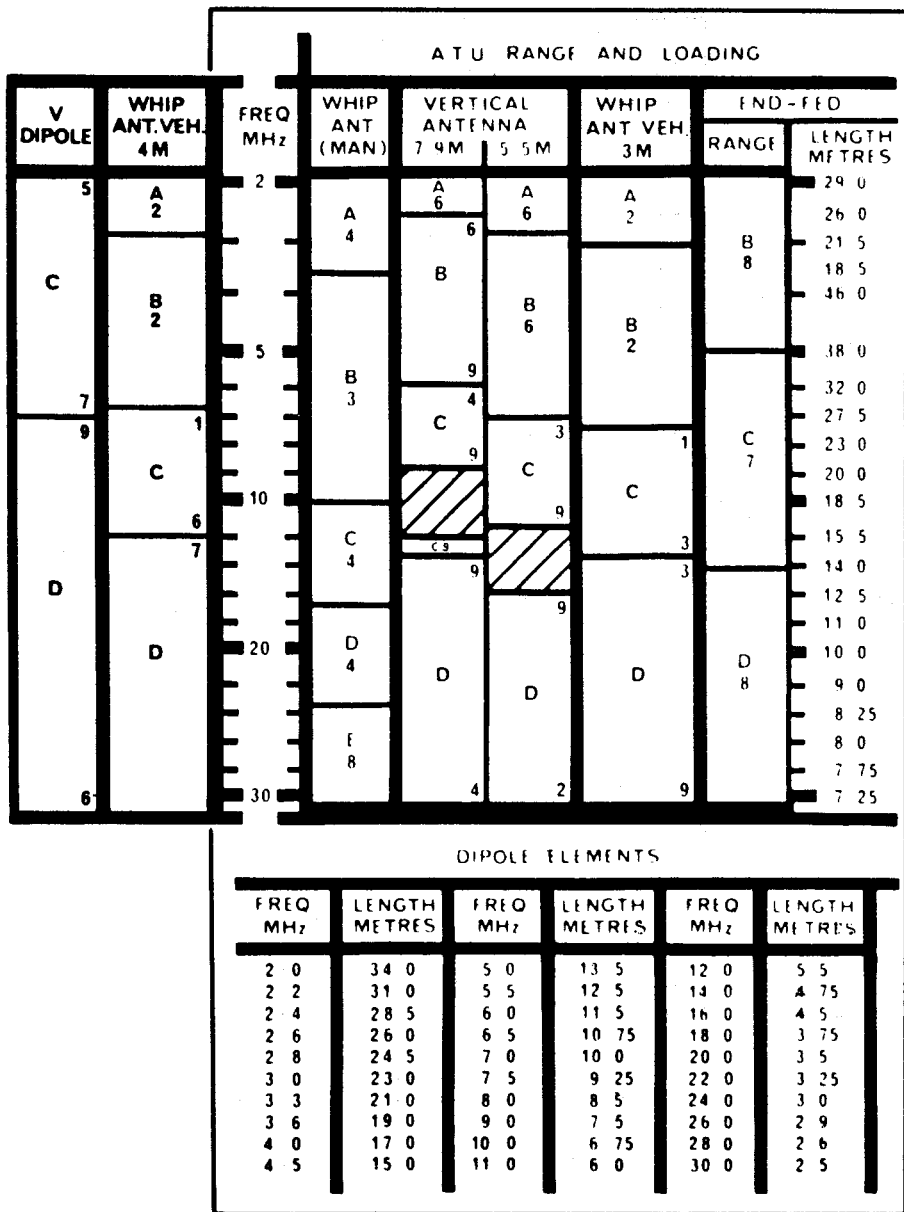
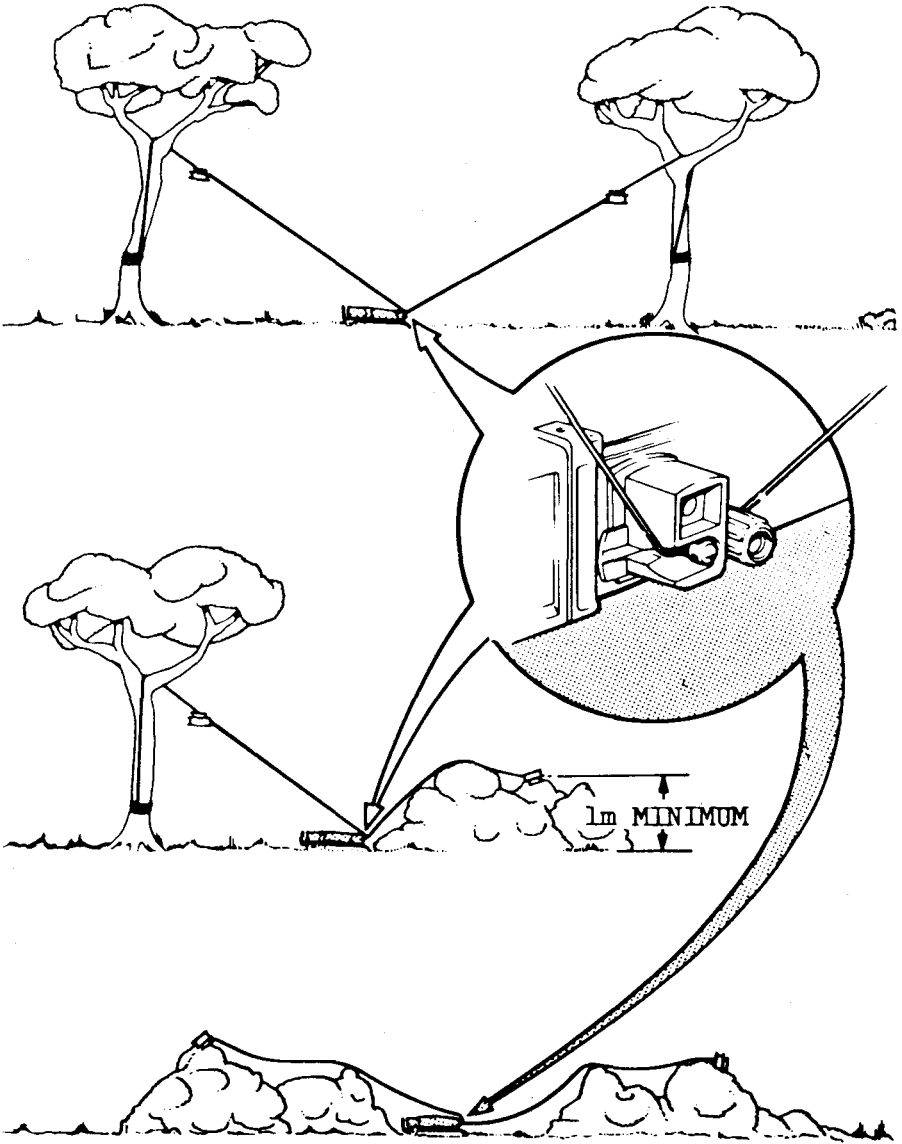
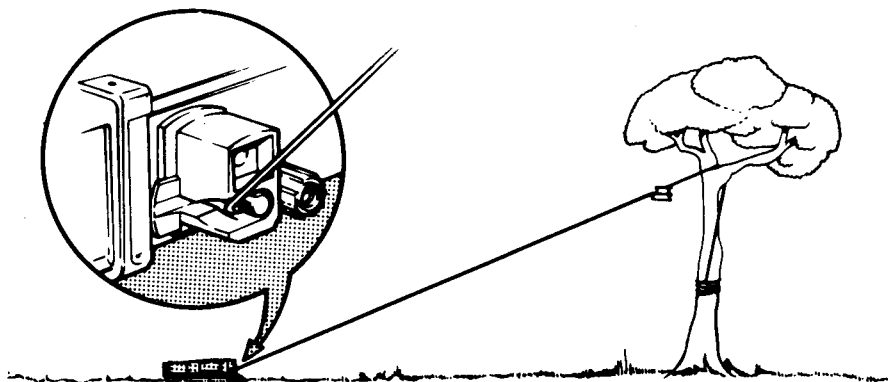

Fig.7 ATU Range and Loading and Dipole Elements Tables
Fig.12 Examples of other Dipole Configurations
Fig.13 Example of End-Fed Antenna
2.7 The settings of the RANGE AND LOAD SWITCHES on the RT320/1 antenna tuning unit (ATU) are determined by the operating frequency and the type of antenna (various configurations are described in para.2.12 to 2.17), as shown in the ATU RANGE AND LOADING TABLE (Fig.7, page 24) on the equipment case. Switch settings for V dipole and vehicle 4m whip antennas are not given in this table and form the subject of a separate table, also illustrated in Fig.7. The method of using the tables is as follows:-
2.16 Examples of other dipole configurations are given in Fig.12. In these examples the dipole centre junction and antenna feeder cable are not used, the coaxial link between the INT TUNER and T/R sockets remains fitted and the wire antenna ends are connected directly to the RT320/1 antenna and earth terminals as shown. The lengths of the dipole elements are specified in the table on the radio set (also shown in Fig.7, page 24). The equipment is set up as shown in Fig.6 (pages 22 and 23), using the RANGE and LOAD switch settings given for the V dipole in Fig.7 (page 24).
2.17 The end-fed antenna, an example of which is shown in Fig.13, uses one antenna wire connected to the RT320/1 antenna terminal and can be supported by a mast or a wall, instead of a tree. After setting the antenna length, as specified in the END-FED column of the ATU RANGE AND LOADING table (Fig.7, page 24), the equipment is set up as shown in Fig.6 (pages 22 and 23) using the RANGE and LOAD switch settings given in the table. The antenna counterpoise must be used with this antenna (see para.2.10).